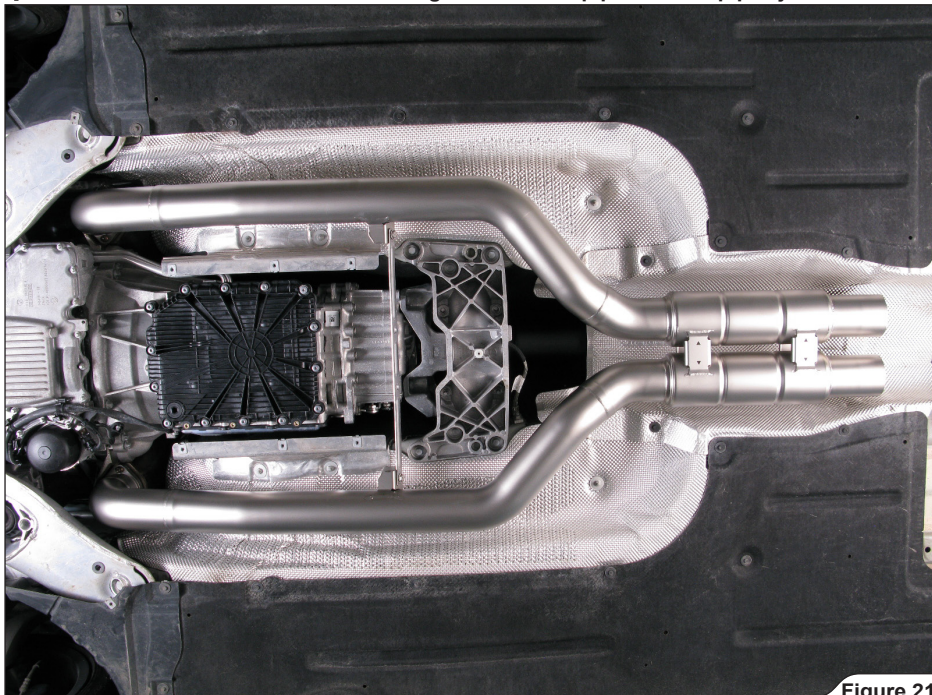

Figure 21
4. Carefully attach the Akrapovič link pipes onto the stock down pipes, using stock nuts (Figure 21, 22).